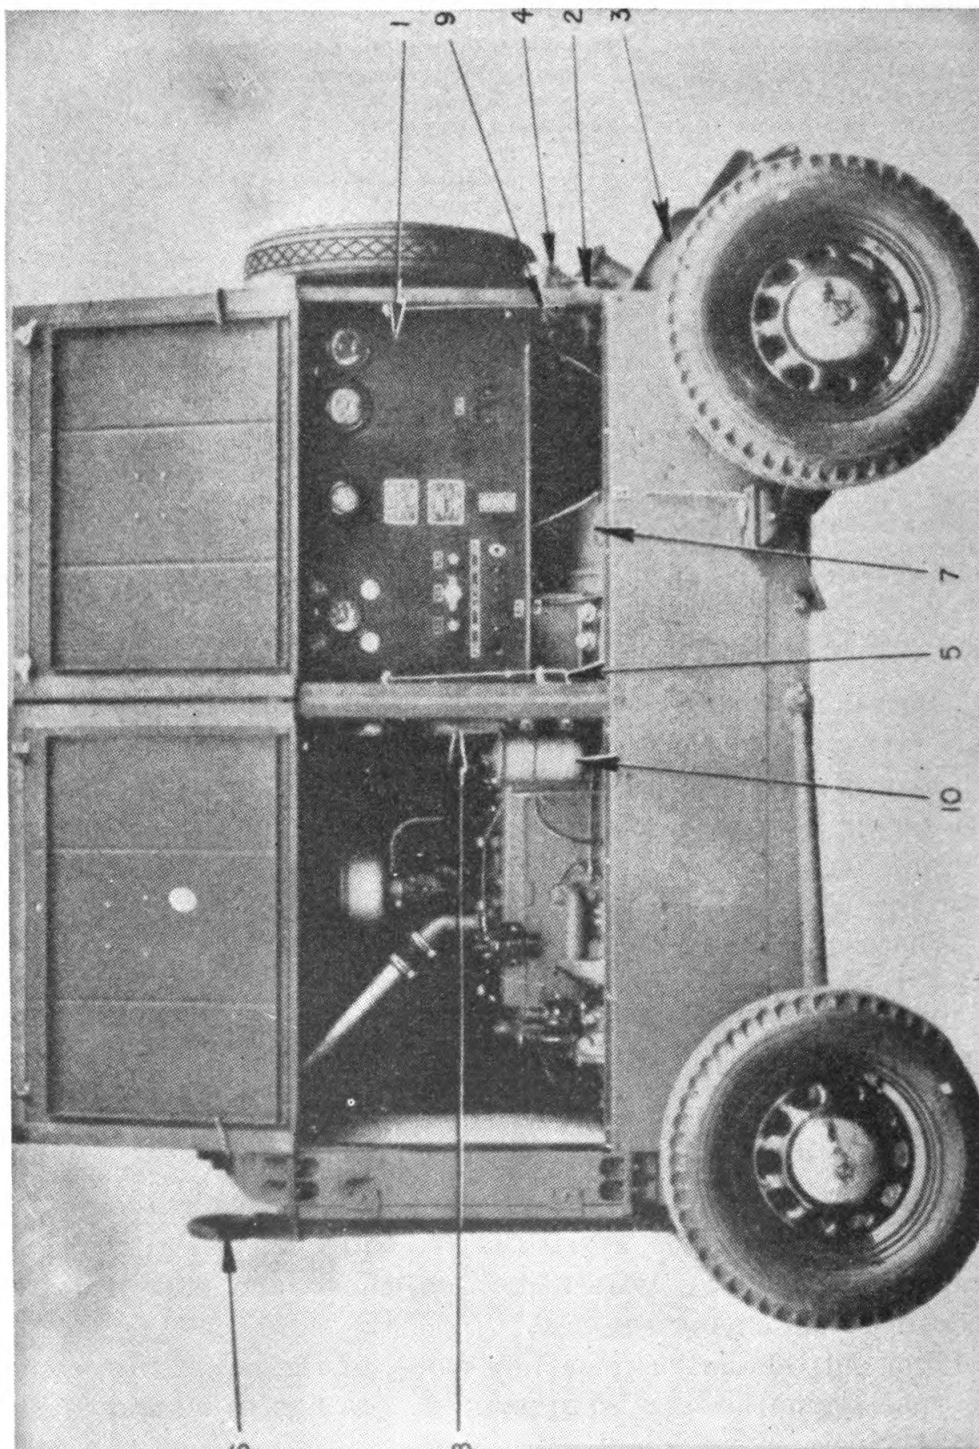
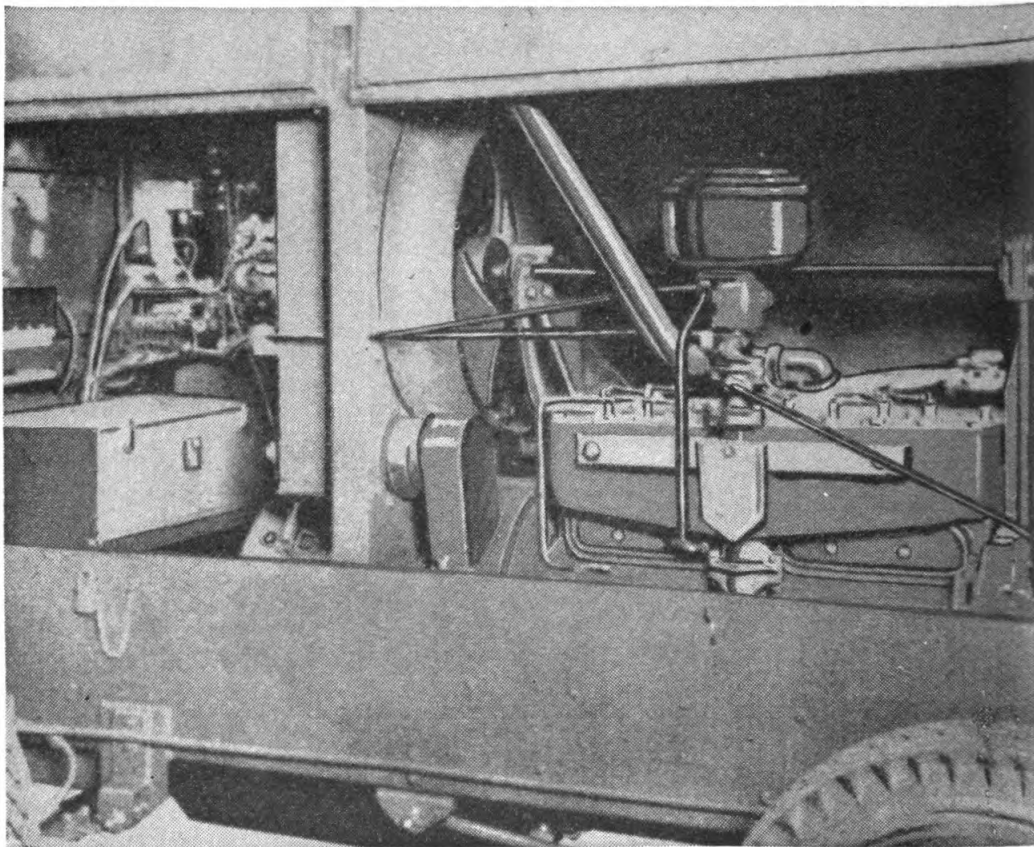

FIGURE 96.—Sperry M1941 power plant (left side).
FIGURE 98.—General Electric M1940 power plant.
Q. Point out the various parts, by name, of the power plant with which your organization is equipped. **A.** See figures 96 and 97 for the M1941 Sperry power plant.
Q. Is the nomenclature of the Sperry and the General Electric power plants similar? A. Yes. Parts (compare fig. 98 with figs. 96 and 97) correspond except as follows:
- (1) The General Electric tank holds 26 gallons.
- (2) The General Electric tail lamp switch is located on the tail lamp.
- (3) The General Electric fan is driven by a pulley from the main crankshaft.